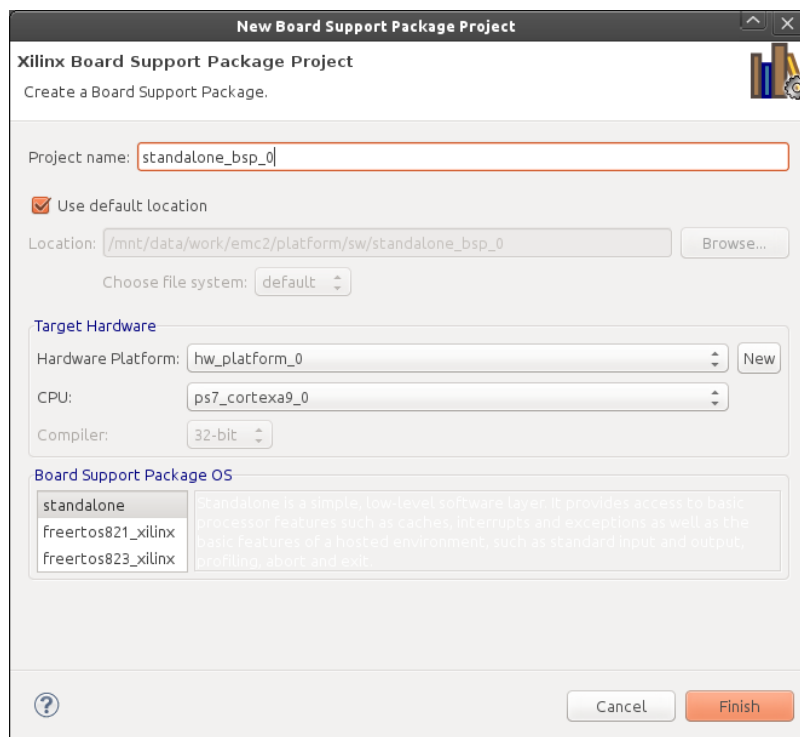

Figure 5: Create a new standalone board support package.
3. Create a new board support package for standalone version of the application, menu *File→New→Board Support Package*, project name set to *standalone\_bsp\_0*, set hardware platform to *hw\_platform\_0*, set CPU to *ps7\_cortex9\_0* and select *standalone* as board support package OS (Figure 5)